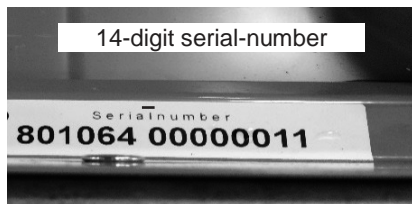

Fig. 9: Sticker with serial number (symbolic representation)
- serial number of the unit (see → Chapter 2.2.1 / additional stickers on the unit (see → Fig. 9),